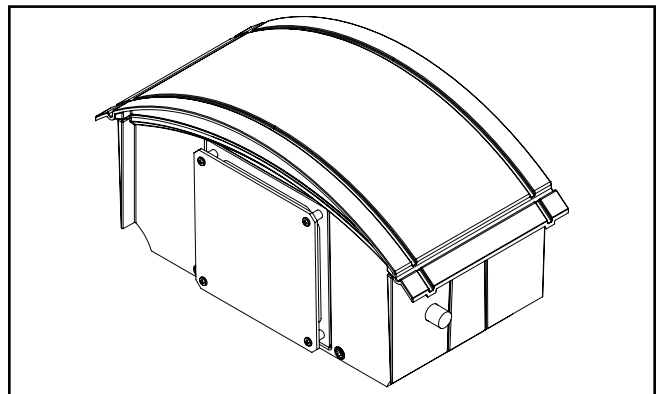

Figure 5a.
3. Align and secure vandal shield to luminaire with 4 provided screws. (Figure 5a.)